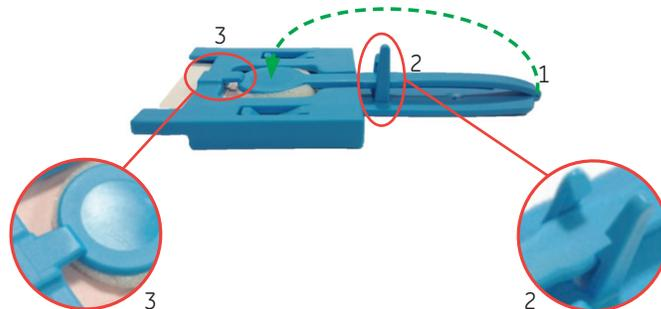

Figure 3
7. Fold the device at the hinge (1), and press the foam head onto the FTA Card (Figure 3).
8. Ensure that the foam head is held in place with the stem lock in the lowest position (2), and the foam head under the head tab (3).